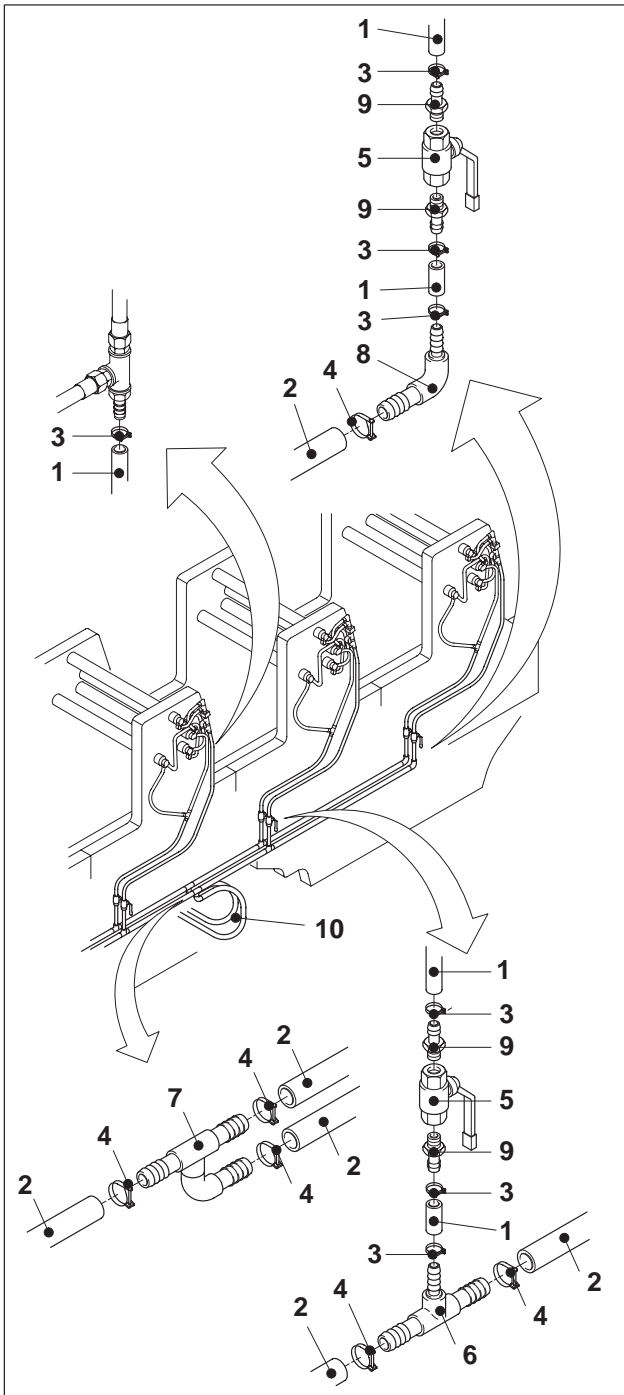

Fig. 12 Hose installation on a press with more than two colours
- ❶ Screw the screwed sockets (Fig. 12/9) into the taps (Fig. 12/5) according to Fig. 12.
- ❷ Push the hoses (Fig. 12/1, 12/2) onto the hose connections (Fig. 12/6, 12/7, 12/8) and the screwed sockets (Fig. 12/9) according to Fig. 12.
- ❸ Fasten the screw clamps (Fig. 12/3, 12/4).
- ❹ Lead the hose pipes (Fig. 12/10) through the base to the temperature control device towards D.S..